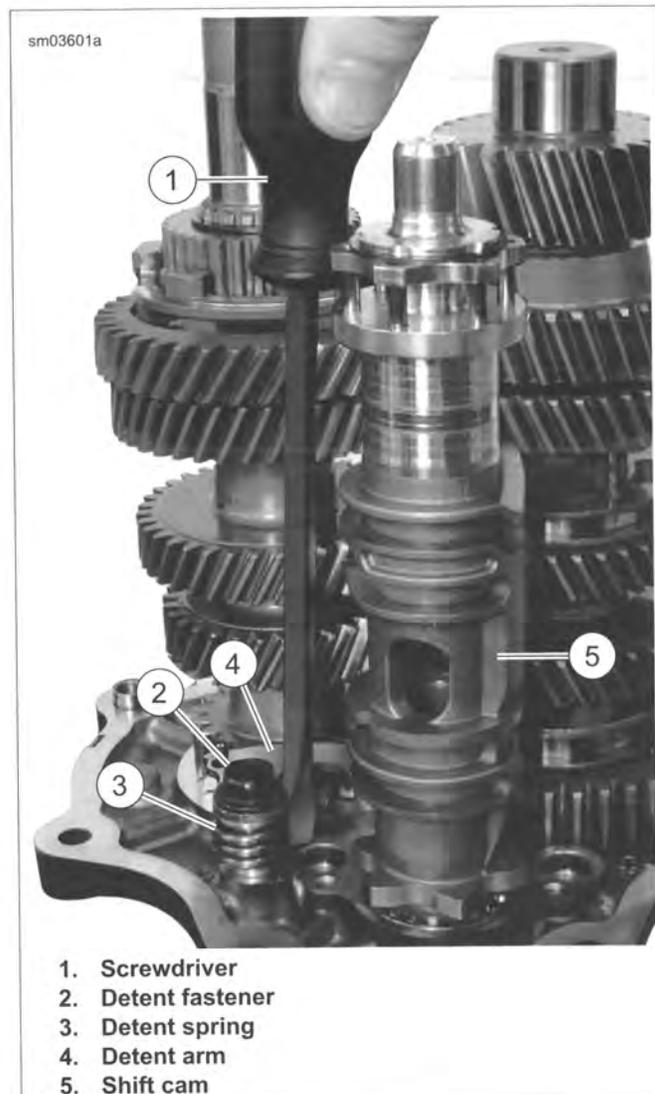

Figure 6-15. Detent Assembly
- See Figure 6-15. Insert screwdriver and gently pry back detent arm (4) to remove detent spring (3) tension from shift cam (5). Remove shift cam.
- If servicing detent assembly, remove detent screw (2), detent arm (4), sleeve and detent spring (3). Discard detent screw.